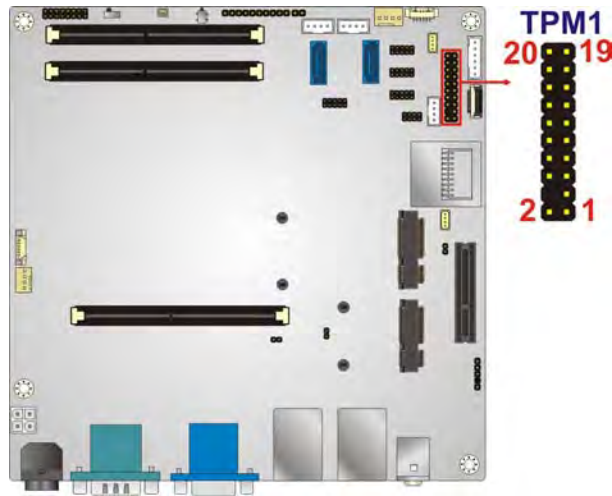

Figure 3-27: TPM Connector Location
- CN Location: See **Figure 3-27**